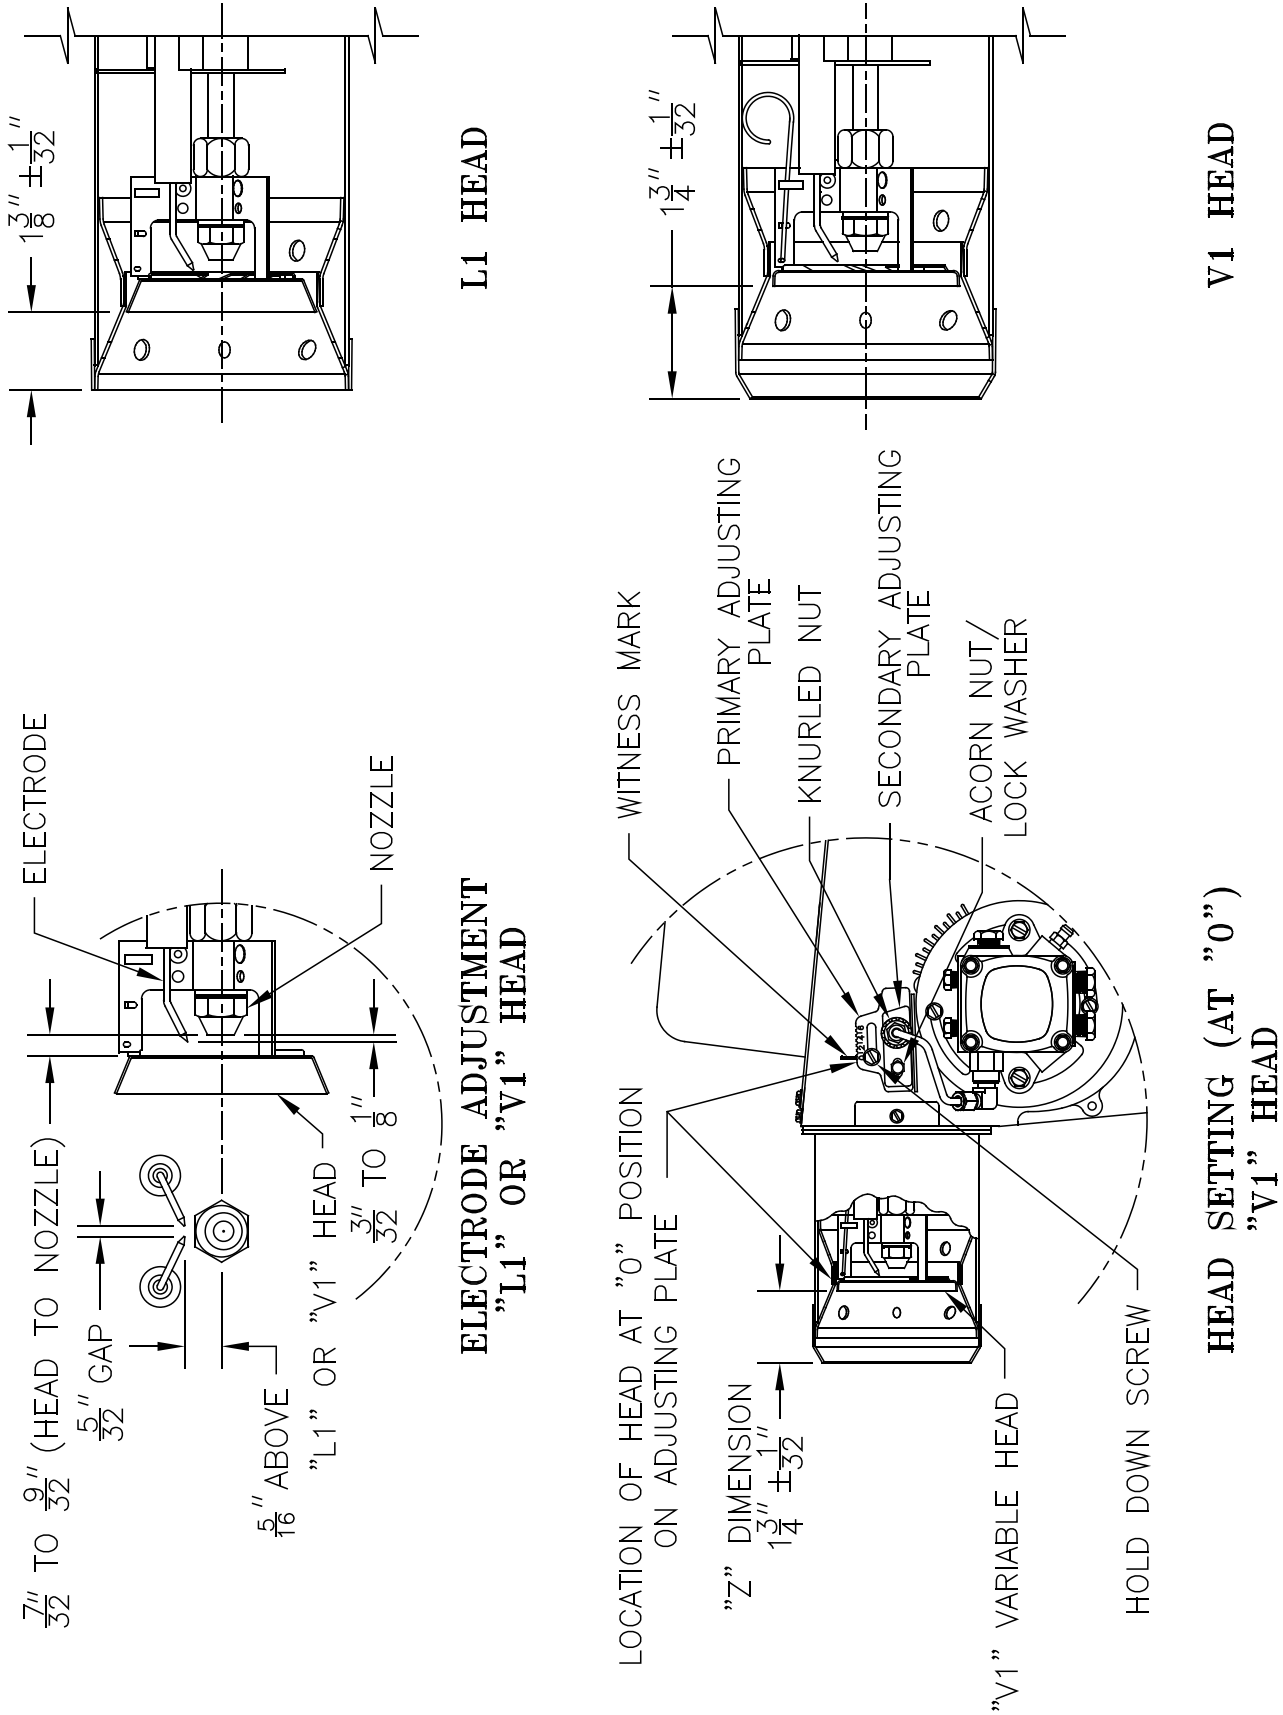

Figure 8-2: "L1" and "V1" Head Electrode Positioning and Gun Setting (Beckett AFG)
- b. Verify nozzle size, head size, gun setting, and positioning of electrodes. This information is shown in Figure 8-2, and Beckett AFG Burner Specifications, Table 14-1. Replace Gun Assembly.
- c. Inspect Beckett head setting on left side of burner housing by insuring the blue line MD(V1) or the line on the label MB(L1) are aligned, readjust if necessary. Refer to Figure 8-2 and Table 14-1 at the rear of this manual.
Beckett MD(V1) (variable) Head burners have the ability to control air by moving the head. It might be necessary to move the head forward or back one position at a time to optimize the smoke and CO₂ readings. See Figure 8-2.